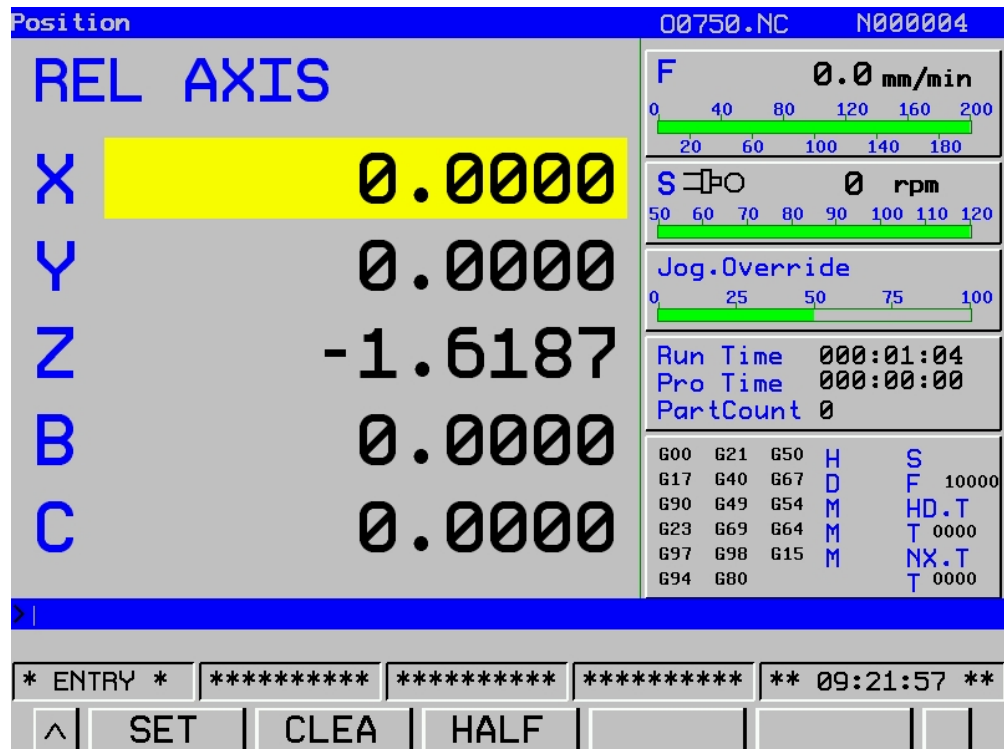

Fig. 3-1-2 Relative coordinates
- 2) **Relative mode:** relative interface displays current tool position on relative coordinate system. It will be called “Relative coordinate” hereafter. Press softkey **【REL】** to enter sub-interface of relative interface (see Fig. 3-1-2).